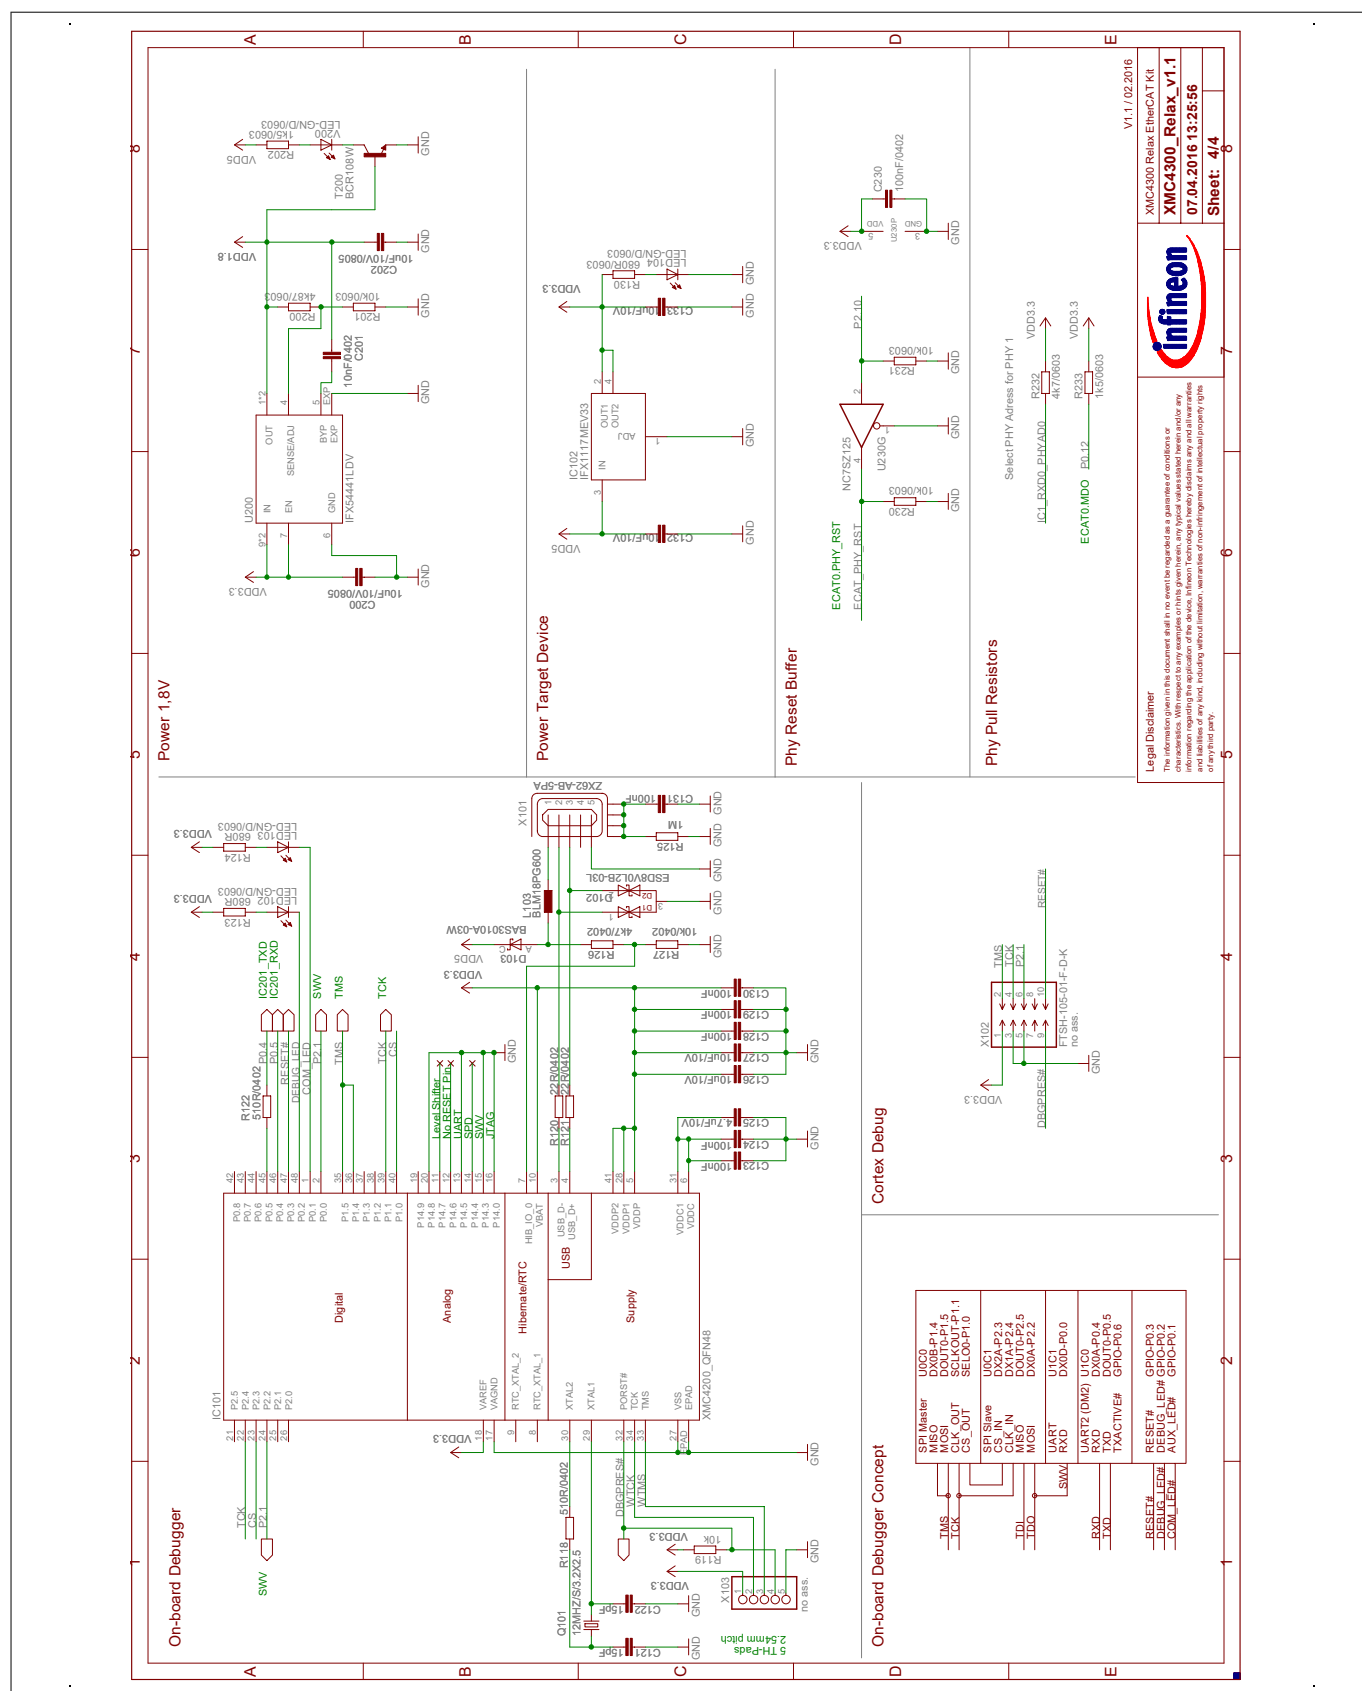

Figure 10 Schematic: On-Board Debug Probe, Power Supply
- Figure 10: Schematic: On-Board Debug Probe, Power Supply